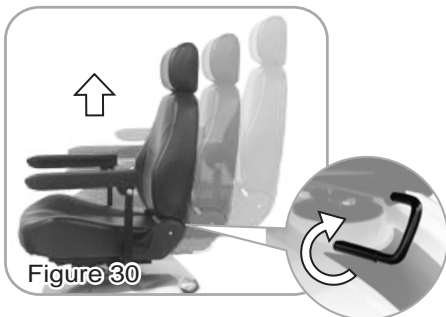

Figure 30
- By lifting lever to remove seat upwards. (Figure 30)